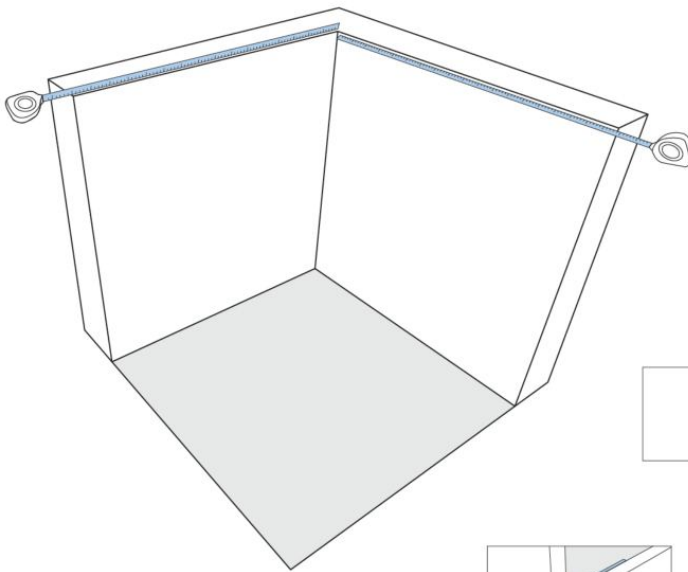

Fig.31
- Measuring the wall dimensions as shown in fig.31.